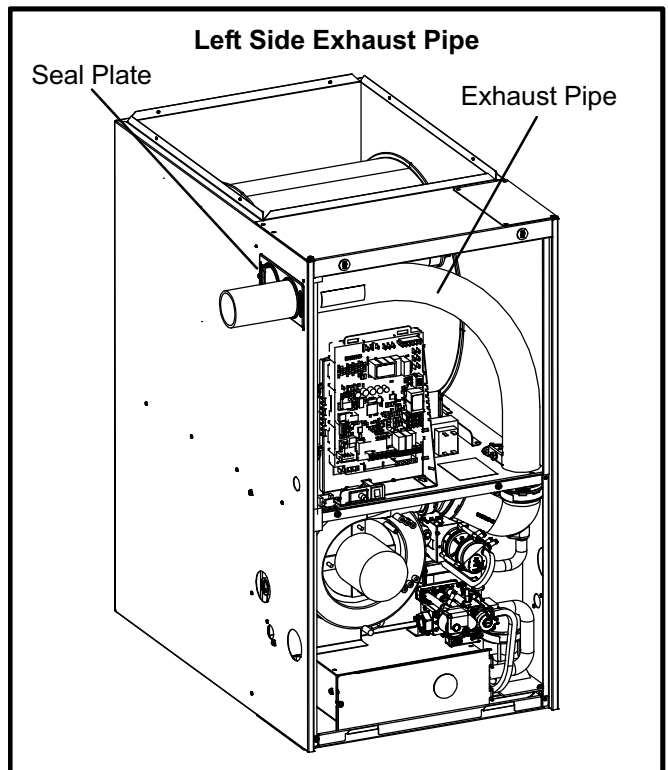

FIGURE 4
- 9 - Carefully snap the seal plate in place of the patch plate on the exterior of the cabinet as shown in figure 4.
- 11 - Install the provided 2" PVC curved exhaust pipe through the seal plate on the side of the cabinet as shown in figure 4. Connect to the rubber fitting below. Once the pipe is properly positioned, tighten the hose clamp.